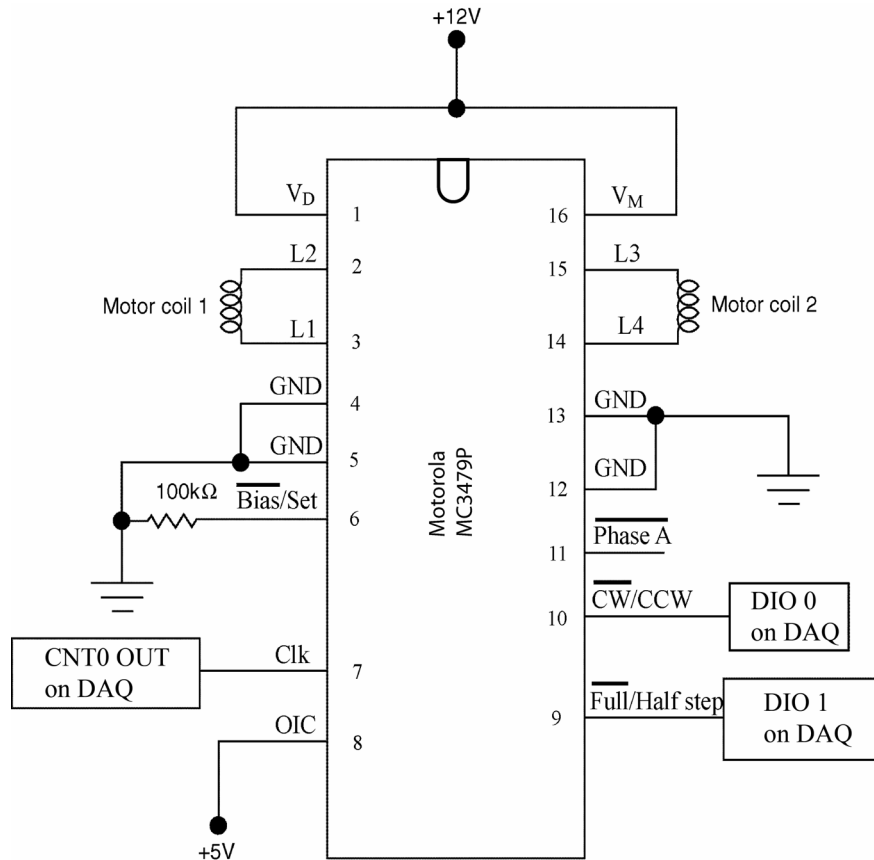

Figure 3: Pin out schematic for the driver chip.
1. Build the stepper motor control circuit shown in Figure 3.